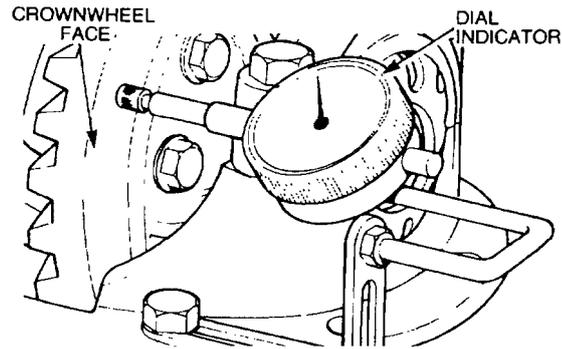

Figure 216 Measuring Differential Run-out
- j. Position a dial indicator on the axle casing with the stylus in contact with the rear face of the crown wheel (Figure 216), rotate the differential and check the total run-out. This must not exceed 0.05 mm (0.002 in). If the run-out is excessive, check the crown wheel-to-differential cage mating faces for dirt or signs of damage and, if necessary, select a new position for the stylus to contact until the amount of run-out is below that specified.